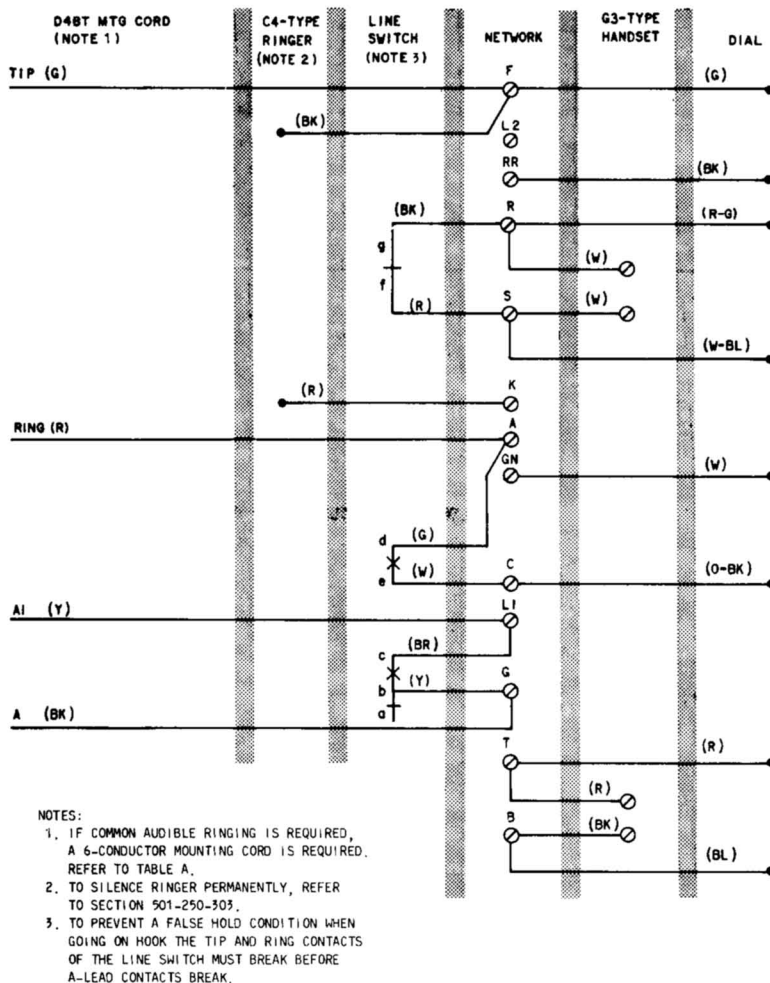

Fig. 1—2500M (MD) Telephone Set, Connections
1.01 This section contains information on the 2500M (MD) and 2500MM telephone sets (Fig. 1 and 2).
- Revise Fig. 1 and 2
Note 2: If set is equipped with a 4-conductor mounting cord (Fig. 1 and 2) replace with a 6-conductor mounting cord.